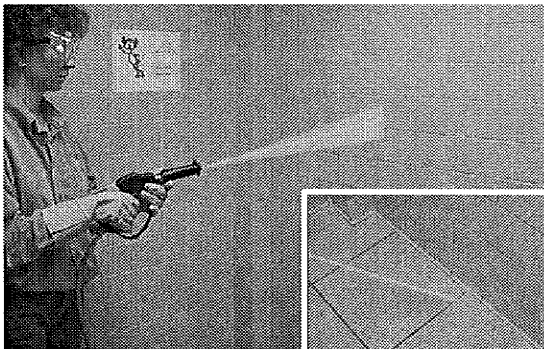

FIG. 18
3. Begin rinsing entire area from top to bottom. Turn spray nozzle clockwise to pin-point grout lines, heavily soiled and hard to reach areas (Figure 18).